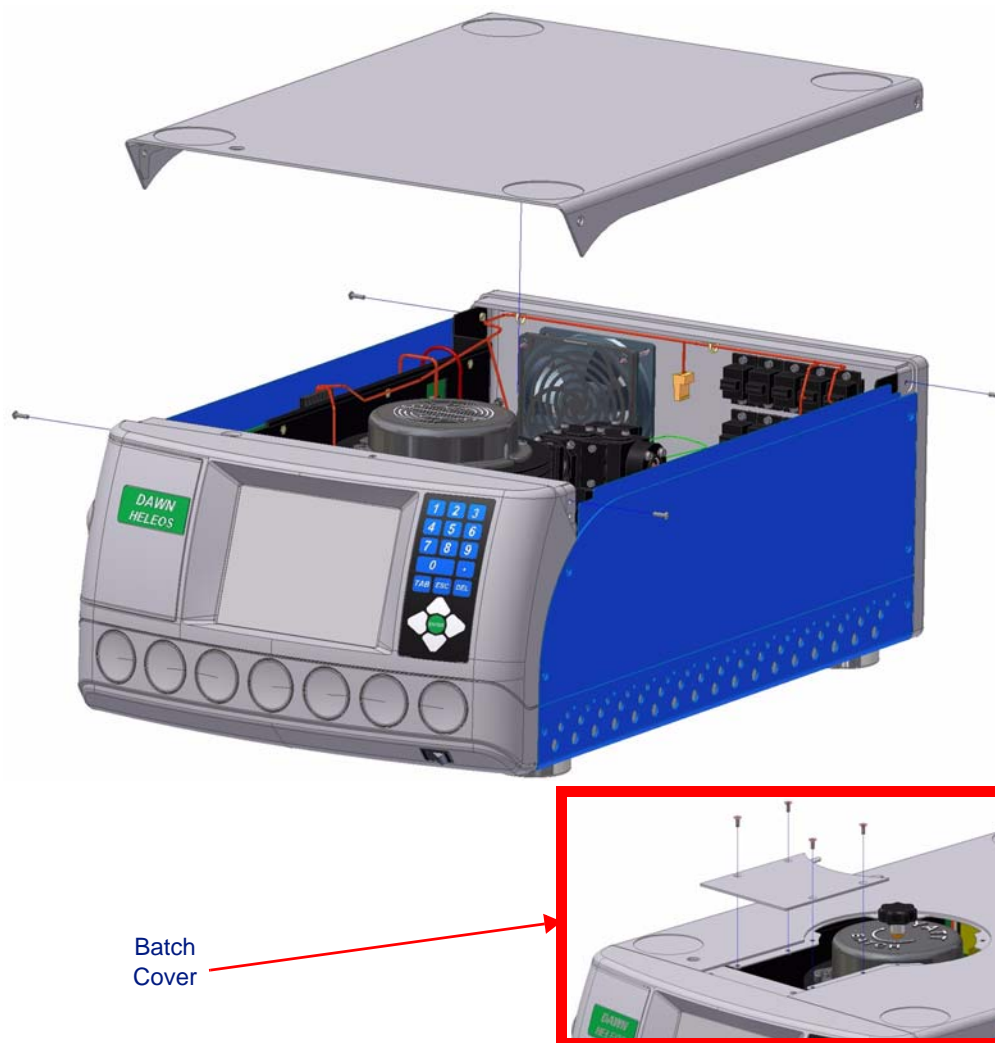

Figure 3-4: Top Cover
3. Remove the four screws that fasten the top cover to the instrument using the 2.0 mm Ball driver. The screws are shown in Figure 3-4.